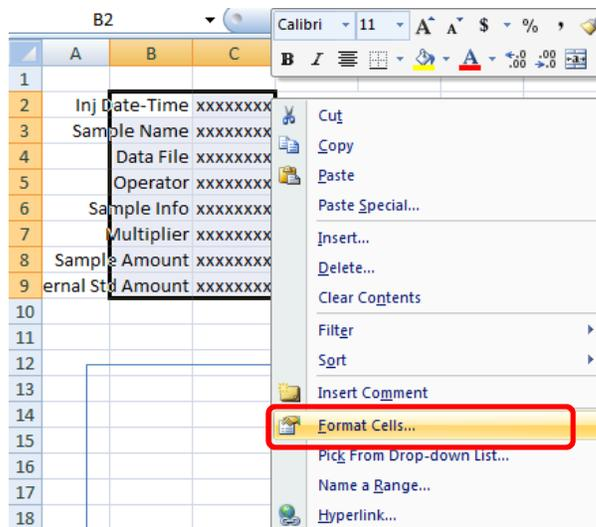
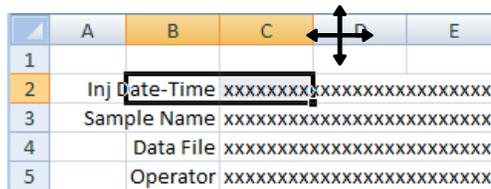

Figure 3.8 Right click to Format Cells
Figure 3.9 Moving Sample Information cells
15. Sample Information items can be customized by changing the font type, size, color, etc. To change basic formatting, right click on the selected sample item cells (name and value cells) and select *Format Cells* (see Figure 3.8). Items may also be moved around to different positions on the report screen, (See Note and Figure 3.9).
It is important when moving Sample Information items around to select two adjacent cells: the label and value cells. For example select B3 "Sample Name" and C3 the value cell to the right (see Figure 3.9).